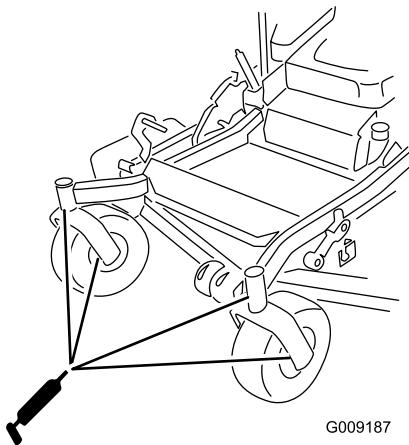

Figure 40
- Remove the grease fitting in the hole. Install the hex plug and dust cap (Figure 40).